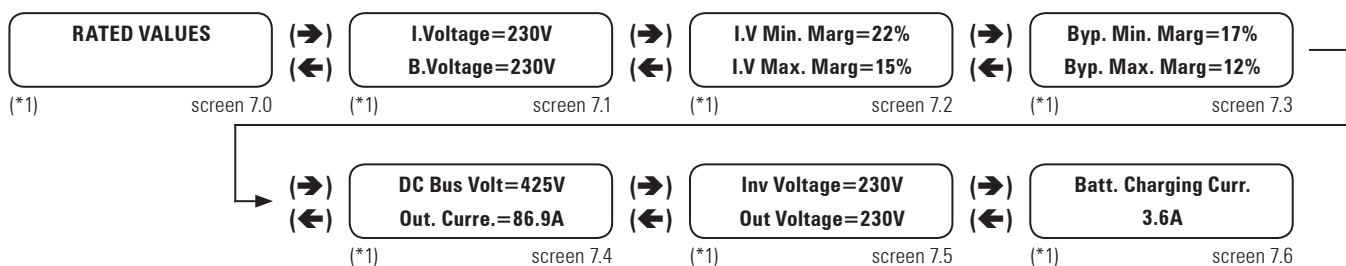

Fig. 37. Screen 7.0 «Rated values» and its submenus.
6.3.8. Rated values screens (screen menu 7.0). See Fig. 37.